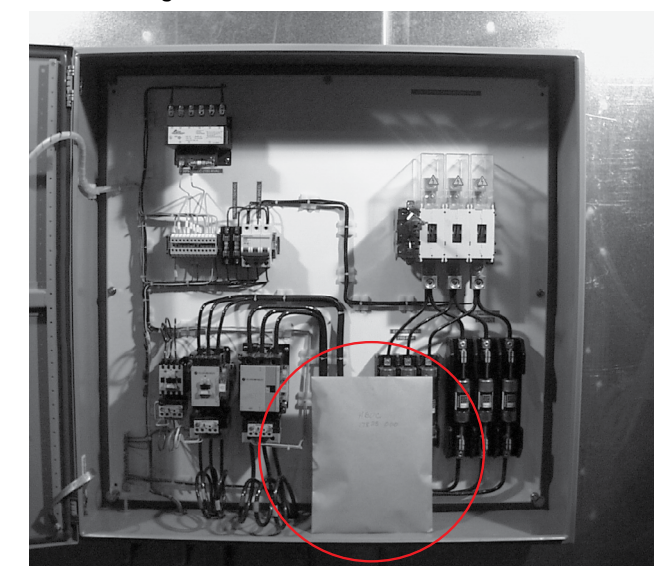

FIGURE 3. An envelope with the packing list and other pertinent information is found inside the electrical box.
- 1) A packing list is supplied with each shipped system (See **FIGURE 3**). The list should be compared with arriving shipments to ensure that all modules and equipment have been delivered in good condition. Visible damage should be noted on the trucker's bill of lading when receiving the unit.